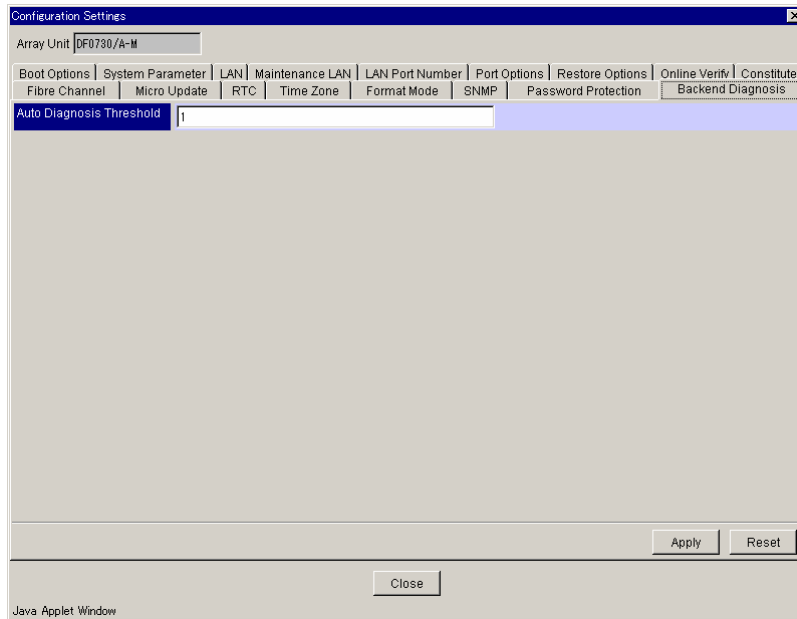

Figure 9.50 Backend Diagnosis Setting
2. Click the **Backend Diagnosis** tab. See Figure 9.50.